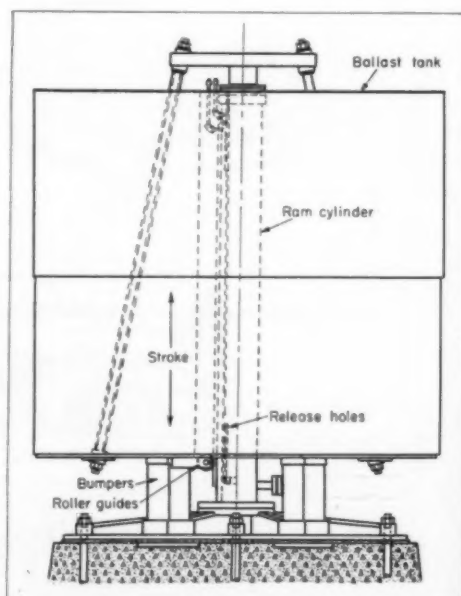

Fig. 2—Right—Weighted or gravity type of accumulator employing ballast tank mounted to ride on roller guides
**Weighted Type:** The weighted accumulator, often called gravity or ballast type, *Fig. 2*, is a simple device requiring no auxiliaries. It has the advantage that pumps can be controlled by a simple float or limit switches. Release holes in the ram serve to prevent the ram from going too high and tipping